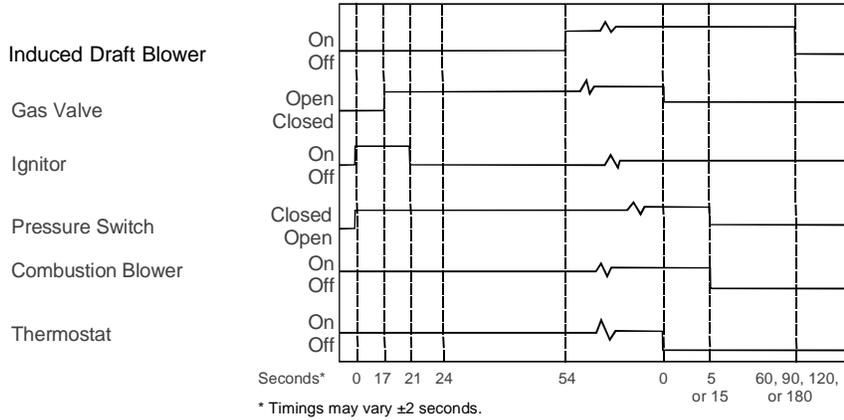

**Figure 29
2. Install the return air plenum on the furnace. For proper filter performance, the sides of the plenum must be at least as tall as dimension "A" shown in Figures 29 and 30.
- With the air flow direction arrow pointing toward the furnace, insert the filters from the left side of the blower. Starting with the right filter, push the filter into the plenum so the bottom of the filter fits into the filter rack and the upper edge rests against the side of the plenum. Repeat with the left filter (Figure 29).